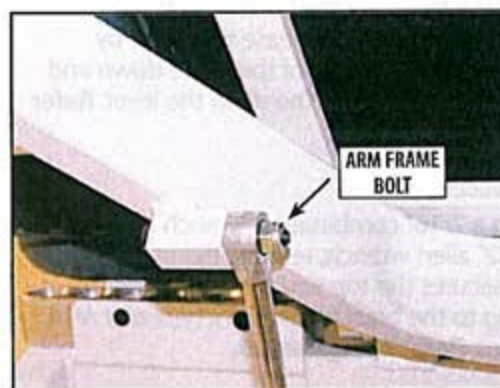

FIGURE 5.8
4. Using a 5/32" allen wrench and a 7/16" combination wrench, remove the nut and bolt holding the Gas spring to the Arm Frame. Refer to Figure 5.8.